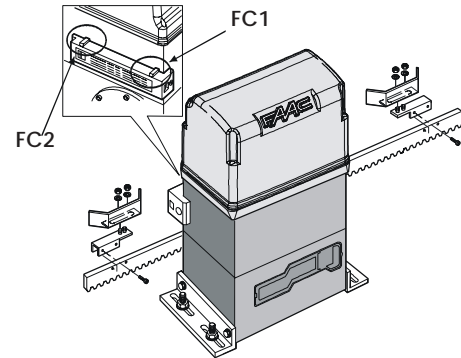

Fig. 22
- 1) Assemble the limit sensor centring the plate with respect to the threaded pins of the support (fig.22).